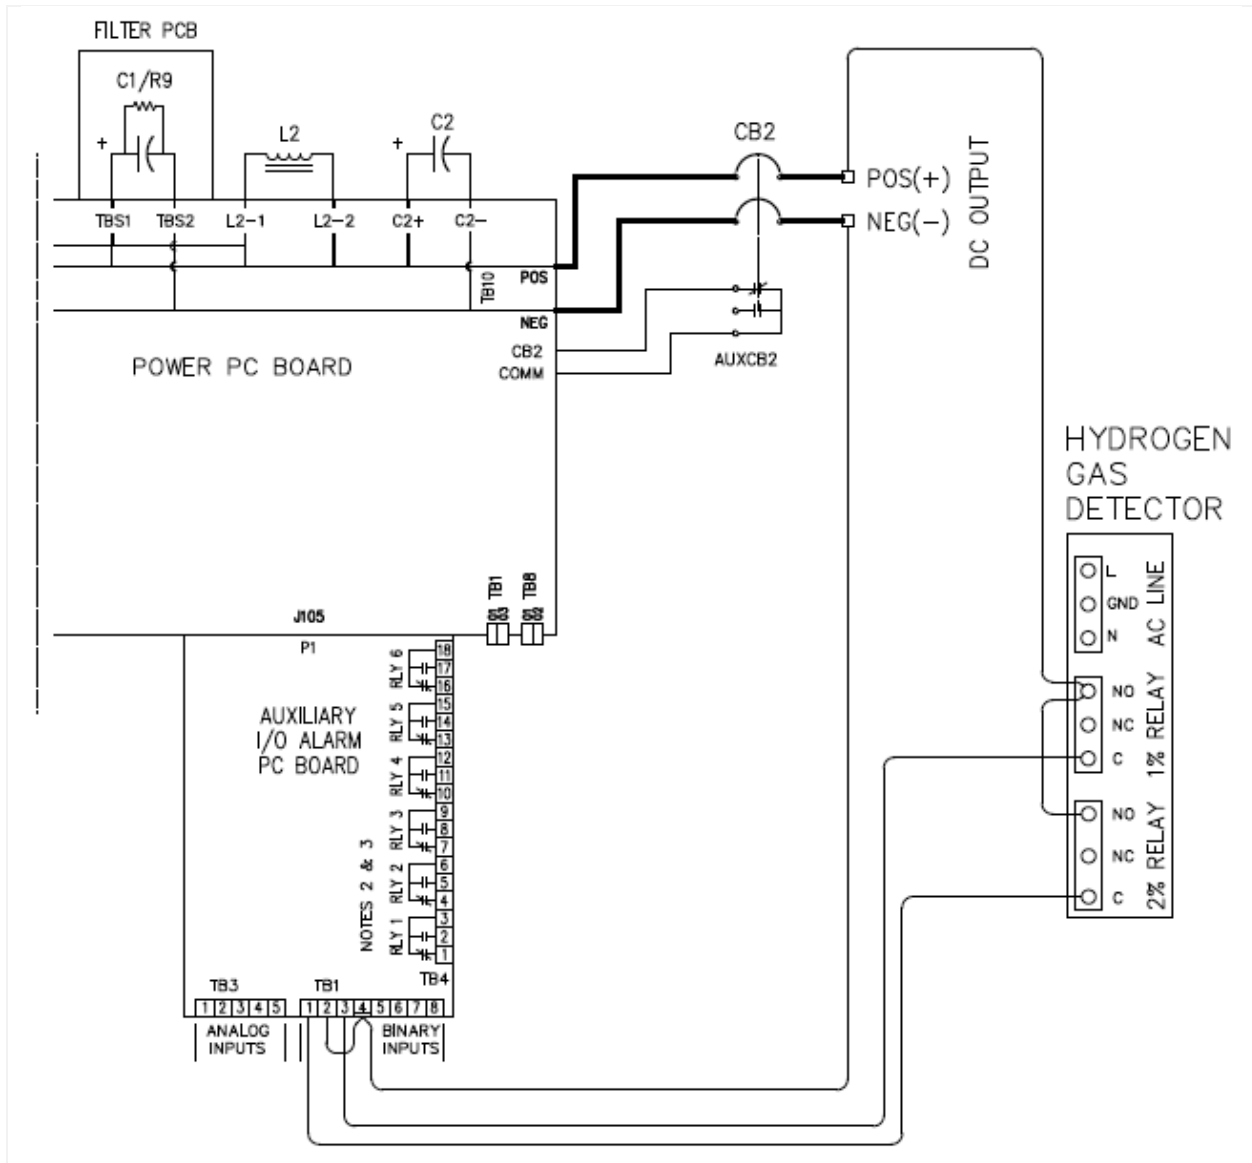
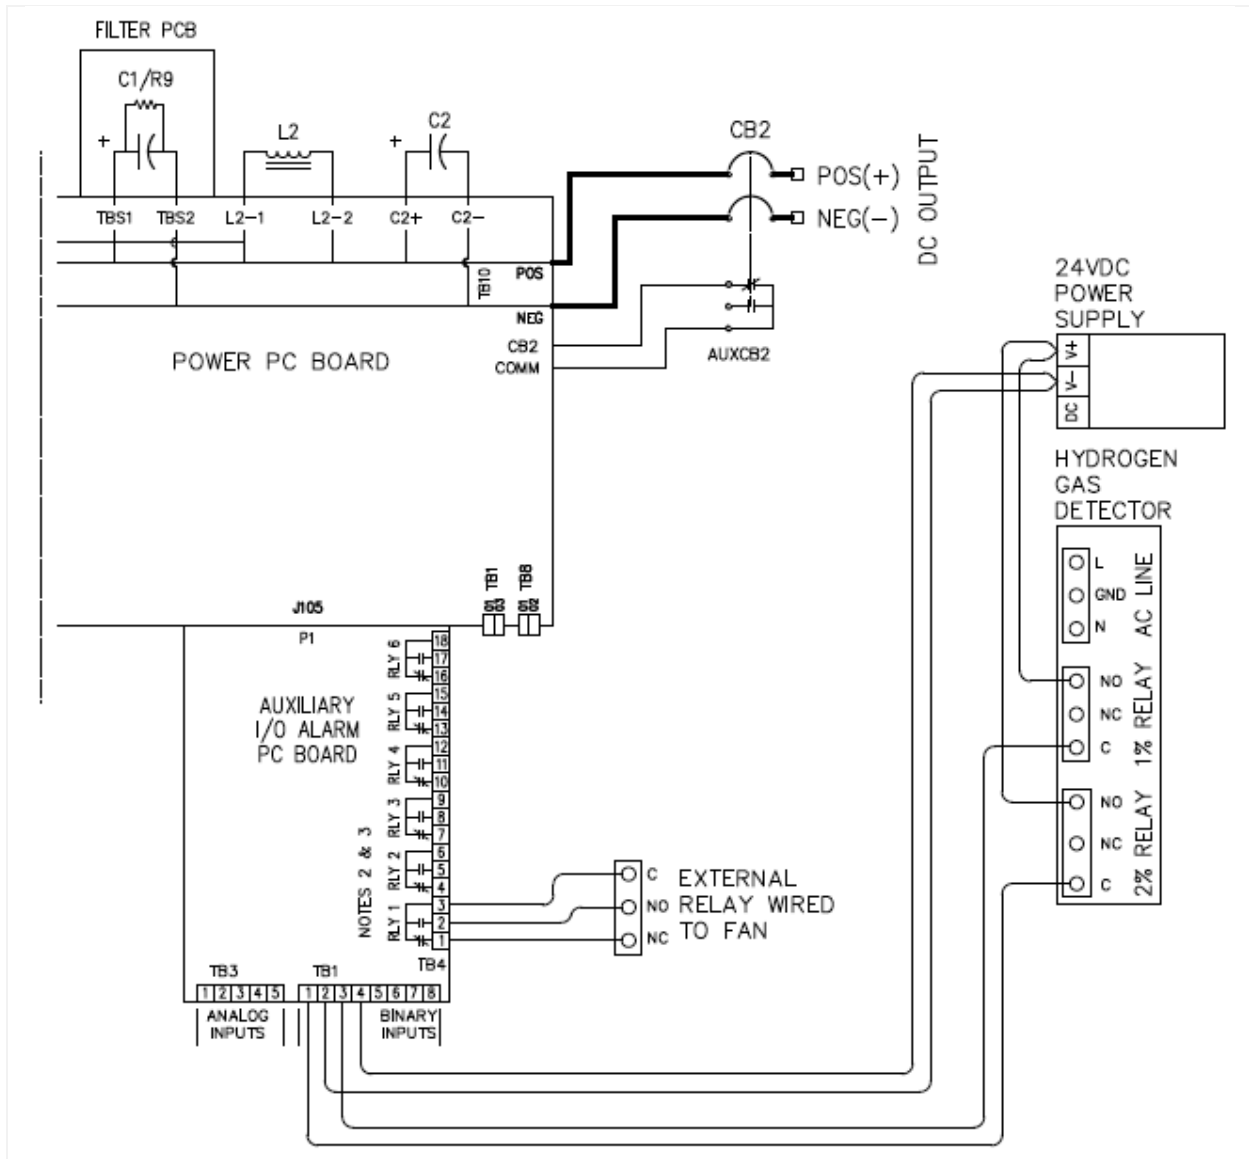

Figure 2– Wiring Hydrogen Detector to ATevo DC Output
Figure 3– Wiring ATevo to Hydrogen Detector, including External Power Source and External Relay to Start Exhaust Fan When 1% Hydrogen Alarm Becomes Active
The basic steps for wiring, as shown in Figure 2 (on next page) are:
1. Connect ATevo's POS (+) DC output to normally open (NO) terminal on both hydrogen gas detector's relays.
2. Connect ATevo's NEG (-) DC output to negative terminals for two (2) binary inputs on ATevo's Auxiliary I/O board (terminals 2 & 4 are shown in Figure 2).
3. Connect Common (C) terminals of both hydrogen gas detector relays to positive terminals for two (2) binary inputs on ATevo's Auxiliary I/O board (terminals 1 & 3 are shown in Figure 2).
NOTICE After wiring according to **Figure 2**, proceed to Binary Input Alarm Configuration (page 7) for instructions on configuring the binary input alarms.
The basic steps for wiring, as shown in Figure 3 (on next page) are:
1. Connect positive (V+) output from external power source to normally open (NO) terminal on both hydrogen gas detector's relays.
2. Connect negative (V-) output from external power source to negative terminals for two (2) binary inputs on ATevo's Auxiliary I/O board (terminals 2 & 4 are shown in Figure 3).
3. Connect Common (C) terminals of both hydrogen gas detector relays to positive terminals for two (2) binary inputs on ATevo's Auxiliary I/O board (terminals 1 & 3 are shown in Figure 3).
After wiring according to **Figure 3**, the following configuration instructions are needed:
In both example applications discussed (see Figure 2 and Figure 3), we must configure binary inputs connected to the 1% and 2% relays on the hydrogen gas detector. We will set these to produce alarms on ATevo and execute charger actions to help mitigate elevated hydrogen concentration.
Configuration for Example 2 as wired in Figure 3 also requires setting a relay on ATevo's Auxiliary I/O board to become an output that reports the 1% H2 alarm to an external relay that drives an exhaust fan.